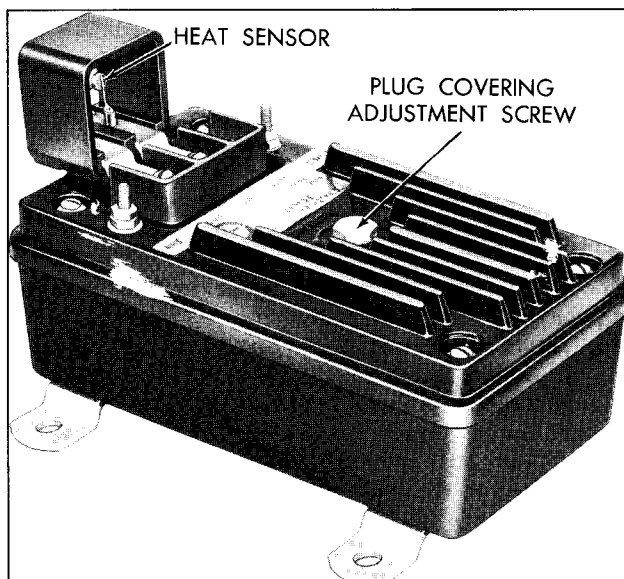

Figure 10—Temperature Control Unit
The temperature control unit (fig. 10) automatically maintains a constant temperature within the coach. This unit controls the amount of voltage applied to water booster pump, varying the speed, thus controlling the flow of hot water through the heating system.
If the temperature range control can not be adjusted to obtain the desired temperature, then the coarse adjustment will have to be adjusted. Adjust the coarse control as follows, referring to figure 10.
a. Remove sensor (figure 10) and check with ohmmeter on RX100 scale of meter. The meter should show between 1K and 5K at normal temperatures. Holding the sensor between the fingers should cause the resistance to decrease. If the sensor is open, the meter will read much higher.